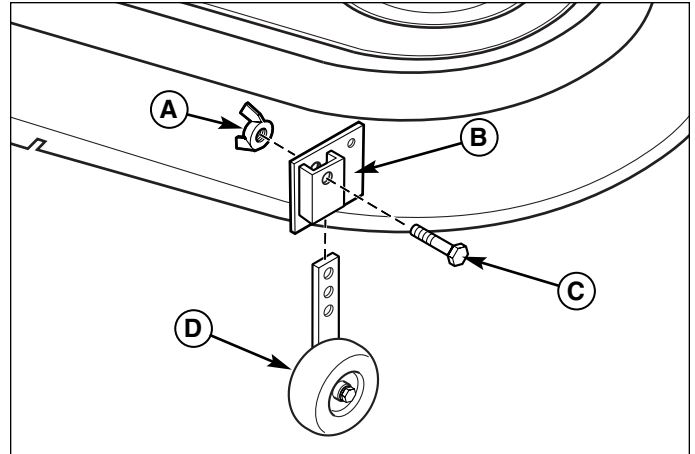

Figure 47. Sliding Bracket Gauge Wheel Adjustment
1. Remove the nylock wing nut (A, Figure 47) from cap screw (C). Slide out cap screw (C) from gauge wheel bracket (B). Change position of gauge wheel assembly to desired height.
2. Insert cap screw (C) through gauge wheel bracket (B) and gauge wheel assembly (D). Tighten nylock wing nut (A). Repeat steps 1 & 2 for all gauge wheels.